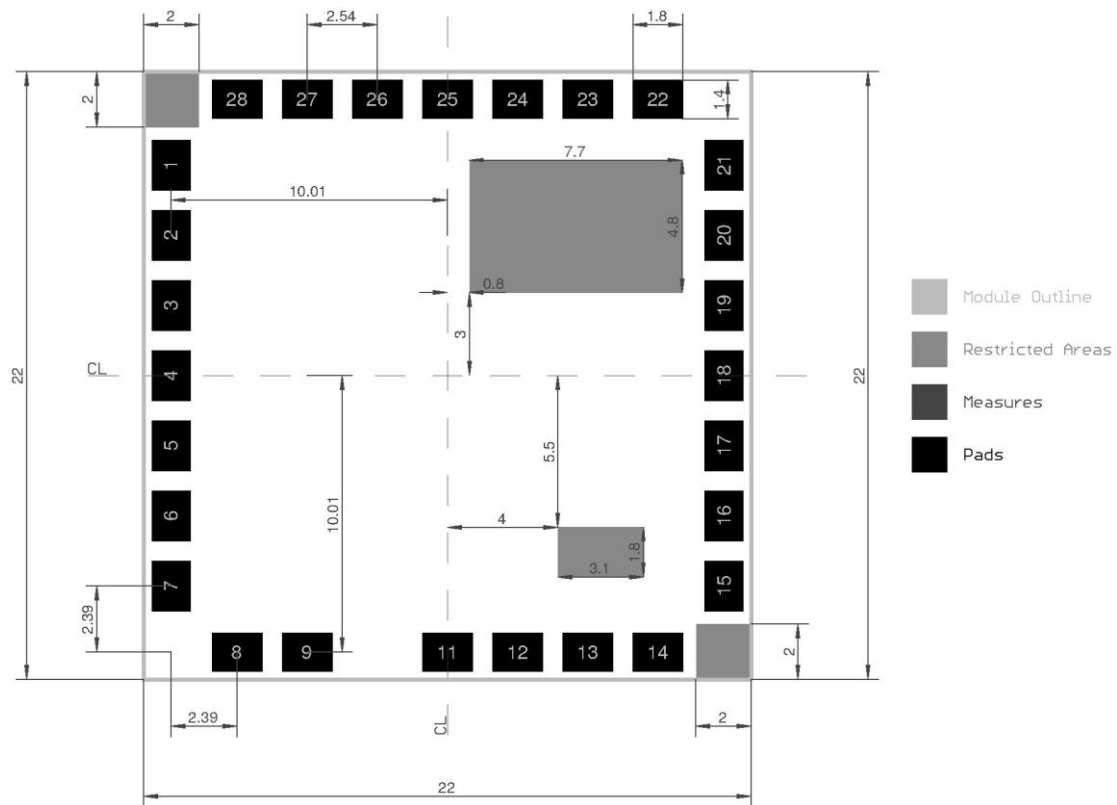

Figure 5 PLC Stamp micro 2 Footprint
4. The drawing in figure 5 shows the top view on the footprint (as if you look through the module).